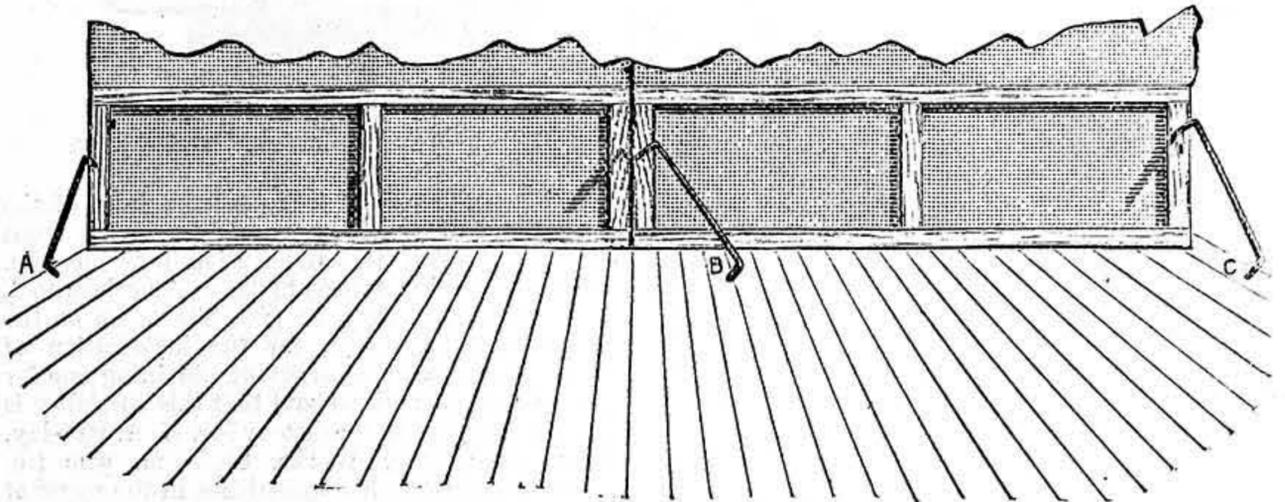
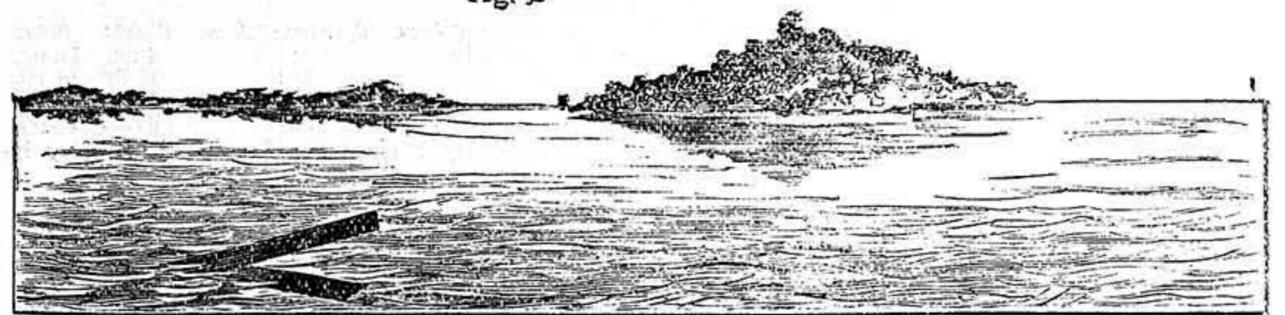
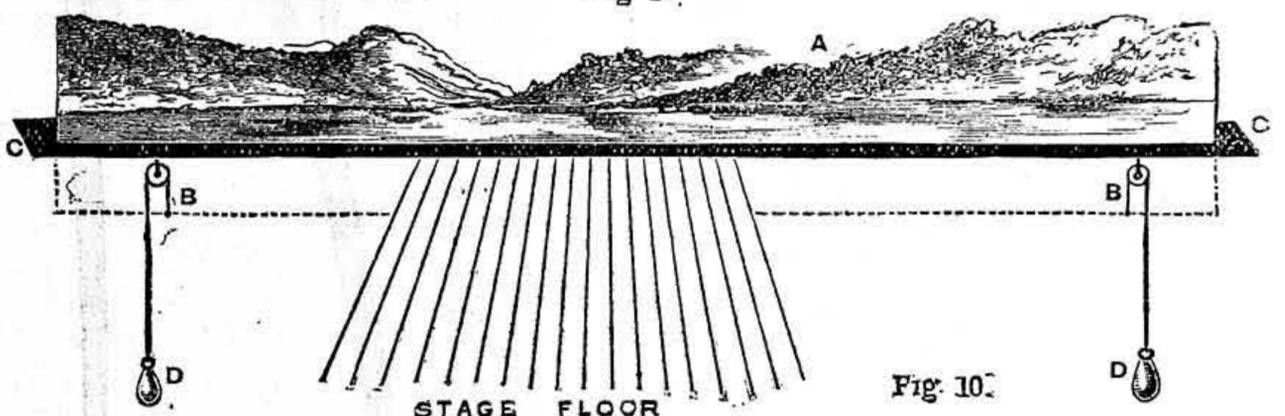

Fig. 8
Fig. 9.
Fig. 10.
consist of rocks, banks, foliage, water, etc.; they are usually fixed by small dogs (see Fig. 8; A, B, C). Supposing you wished to represent, say, Loch Lomond, with its numerous islands—I have done this with six border rows; the first—that is, the one nearest the footlights—would be painted, the water rather rough, such as a stiff breeze would cause; the next border would be less rough, the third still less than the second, and so on with each one, the last being quite flat and pale in colour, the colour in each growing less in strength; you thus get a broad flat surface in proper perspective. Where you wish to represent an "island" you raise it with profile, as in Fig. 9. Boats may pass between the borders. Some years ago I painted the scenery for the gathering of the "Scottish Clans" at the Theatre Royal, Stockton-on-Tees. The chiefs were represented by children in a boat drawn by two swans; the water being frosted, the moon shining full down on the lake, the beacon fires on the hills, and signal lights of different colours, combined to make a splendid scene.
Rises and Sinks.—These are borders which rise through a slide or trap in the stage (see Fig. 10) managed by counter weights; used principally in transformation scenery. To give a description here would be impossible. This all depends on the fancy of the author or artist, which might be weird, grotesque, or any beautiful subject, such as the "Coral Caves of Neptune" or "A Cavern of Sparkling Gems."
In Fig. 10, c c is slide open; A, ground row rising; D, D, counter weights, manipulated from under the stage; at B, on the dotted line, the cord is fastened to the bottom of the border, the cord passing round the grooved wheel, the weight being gently pulled down by the hand.
GROUND ROWS, OR BORDER RISES, AND SINKS. Fig. 8.—Ground Row—A, B, C, Small Dogs. Fig. 9.—Ground Row. Fig. 10.—Ground Rise and Sink, showing the Scenic Portion comprised therein (A), with Pulleys (B).